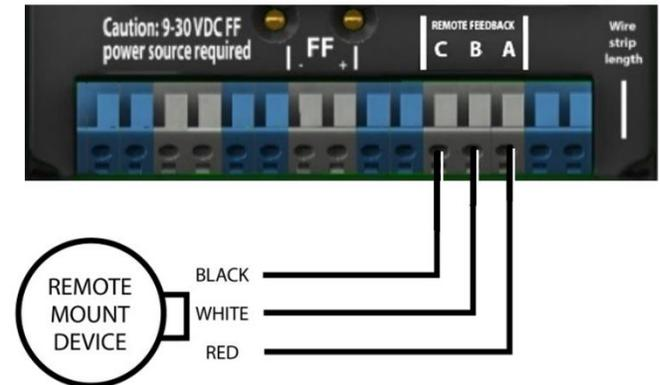

Figure 40: Remote Mount Circuit (FF)
Use the remote mount option where excessive vibration or environmental factors prevent the placement of a positioner directly on the valve. The remote mount is an integrated part of the Logix 3820 circuitry. Wire the remote mount with Black to terminal C, White to terminal B, and Red to terminal A. See Figure 40: Remote Mount Circuit (FF) for remote mount connections.